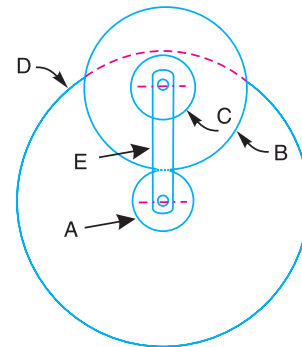

Fig. 13.39
10. A reverted epicyclic gear train for a hoist block is shown in Fig. 13.39. The arm  $E$  is keyed to the same shaft as the load drum and the wheel  $A$  is keyed to a second shaft which carries a chain wheel, the chain being operated by hand. The two shafts have common axis but can rotate independently. The wheels  $B$  and  $C$  are compound and rotate together on a pin carried at the end of arm  $E$ . The wheel  $D$  has internal teeth and is fixed to the outer casing of the block so that it does not rotate.